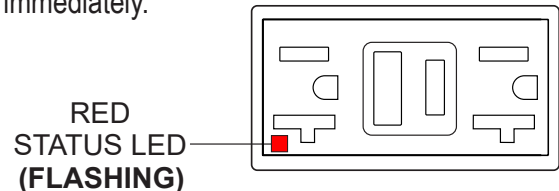

Figure 77. GFCI Receptacle (Red Flashing LED)
6. If the status LED (Figure 77) is **flashing (RED)**, **DO NOT** use the GFCI receptacle and replace it immediately.